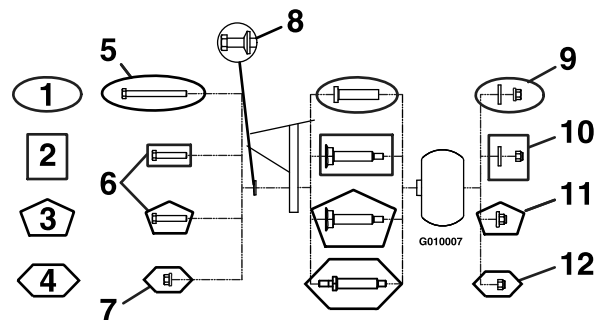

Figure 9
7. Four types of anti-scalp roller assemblies are available. See Figure 9 to determine which assembly has been installed on the unit. Torque hardware as specified, or loss of roller may result. See Figure 9.